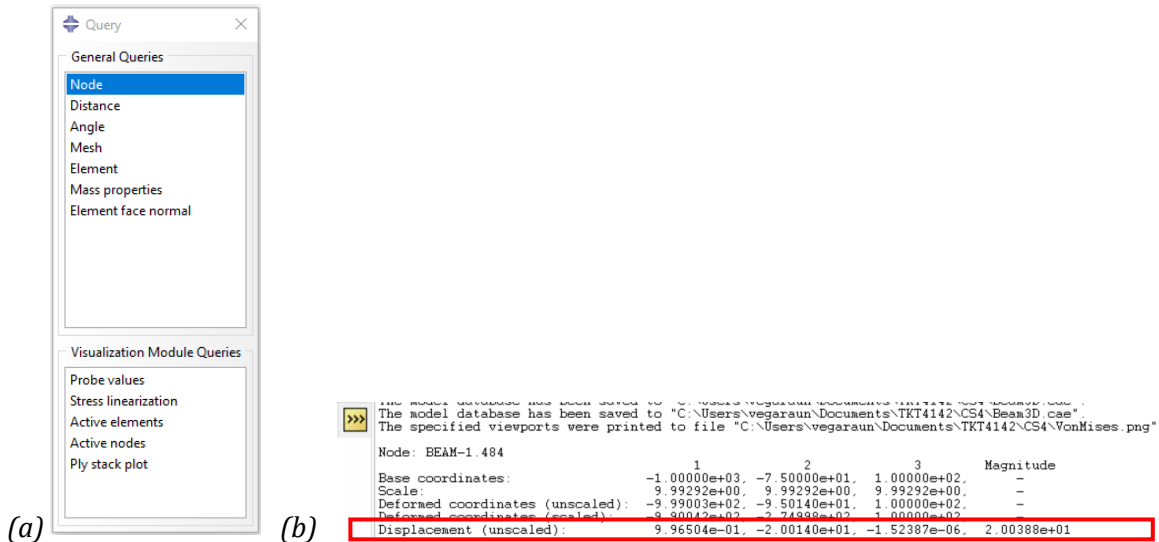

Figure 1-37 – (a) The Query dialog box and (b) the Kernel Command Line Interface.
2. In the **Query** dialog box, use **Node** as the **General Queries**. Input the node in the prompt area or select a node in the viewport. The numerical value for the displacement is displayed in the **Kernel Command Line Interface**, see Figure 1-37(b).